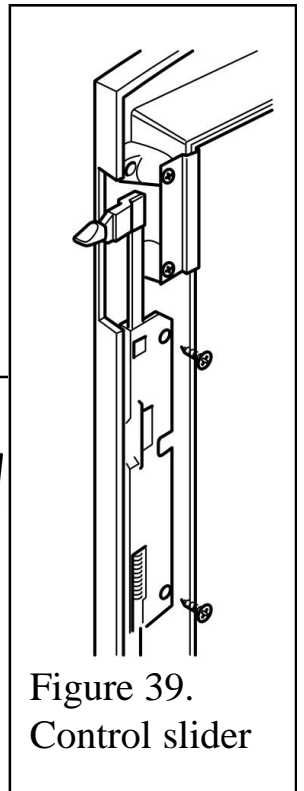

Figure 39.
2. Detach the slide unit by removing two screws securing the plastic slide mechanism to the rear of the fascia (See figure 39).